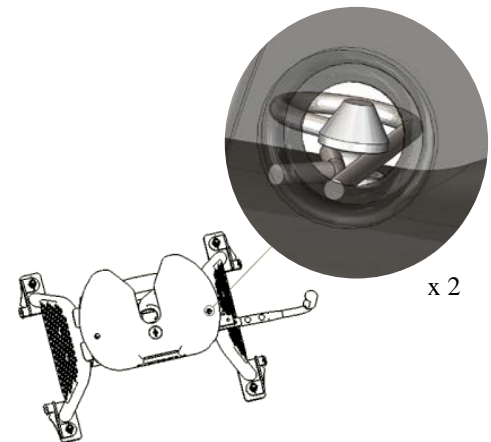

FIG. 6
3. Inspect through sight holes on top of head pan to make sure clips are assembled correctly, as shown in figure 6